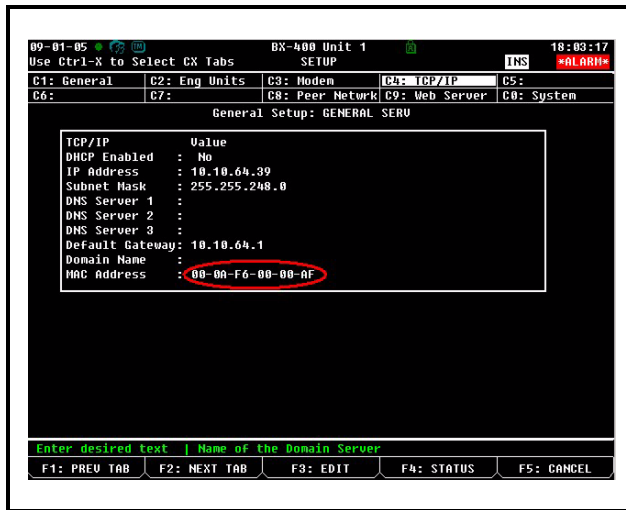

Figure 2-1 - Locating the MAC Address on the TCP/IP Screen
3. Press **#3** (TCP/IP Setup) to open the TCP/IP Setup screen and locate your E2's MAC Address (circled in *Figure 2-1*).